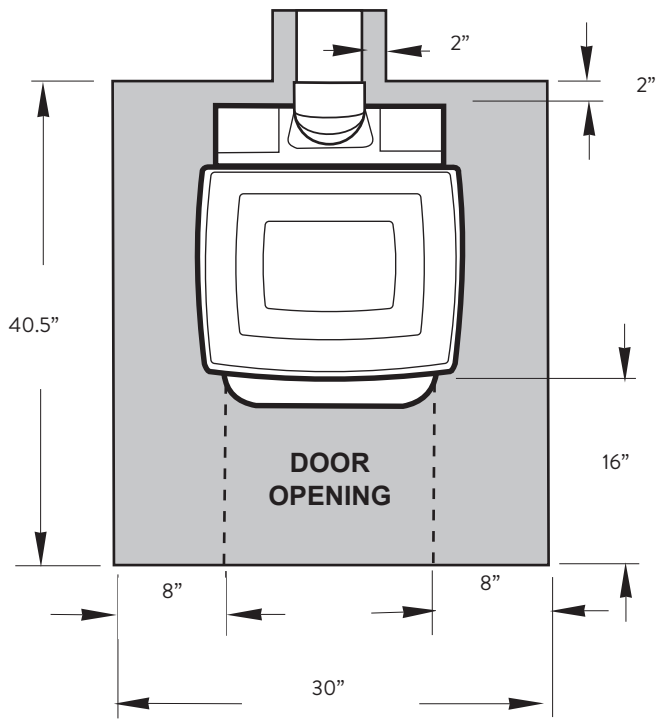

Figure 9. Floor Protection minimum dimensions, U.S. Rear Exit.
**IN THE U.S.: Floor protection must extend continuously forward from the door opening at least 16 in. and 8 in. from the sides of the door opening.** Protection must also extend 2 in. from the rear and 2" to the sides under any horizontal or vertical chimney connector. This will result in a minimum floor protector measuring 30" wide x 40.5" deep for rear exit and 30" wide x 43.25" deep for top exit. See figs 9 and 9a.